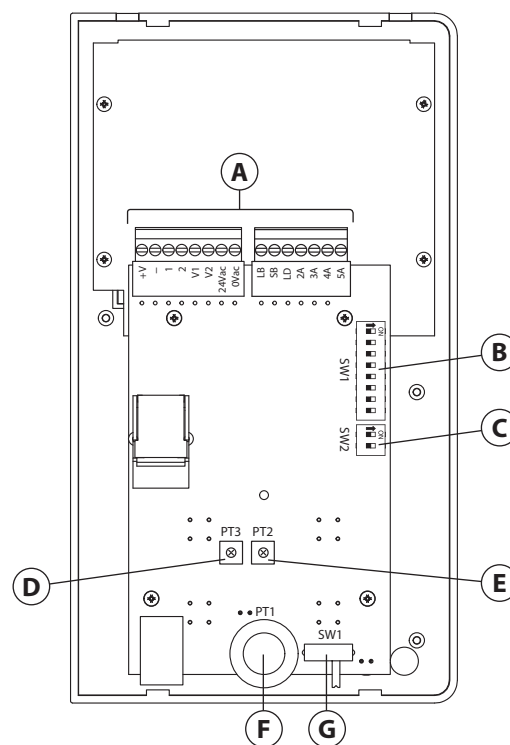

Fig. 2
1. Mount back box **(S)** (**Fig. 2**) at 165 cm from ground level (**Fig. 1**);
2. If more than one flush box is needed, connect them by using the plastic spacers provided **(A)** (**Fig. 2**);
3. If necessary finish and clean properly the module support fixing holes and all other holes **(B)** (**Fig. 2**);
- Pull outwards the top part of the cover as shown in Fig. 2. **Don't pull the cover straight.**